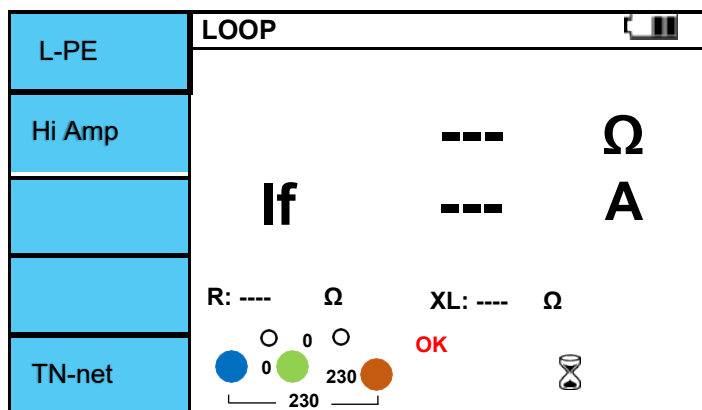

Figure 6.5.5 Loop / Hi Amp screen.
- IV. IV. If there is no problem with the test lead connection, the terminal status is displayed as shown in Figure 6.5.5 “OK” is displayed in the right window.